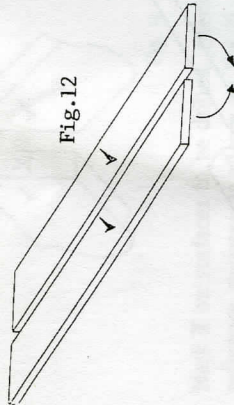

Fig.12
## TO EDGE JOIN LONG BOARDS PROCEED AS SHOWN IN FIG.12 AND 12A.
1. Pencil check (✓) marks on two reference faces as shown on Fig. 12.